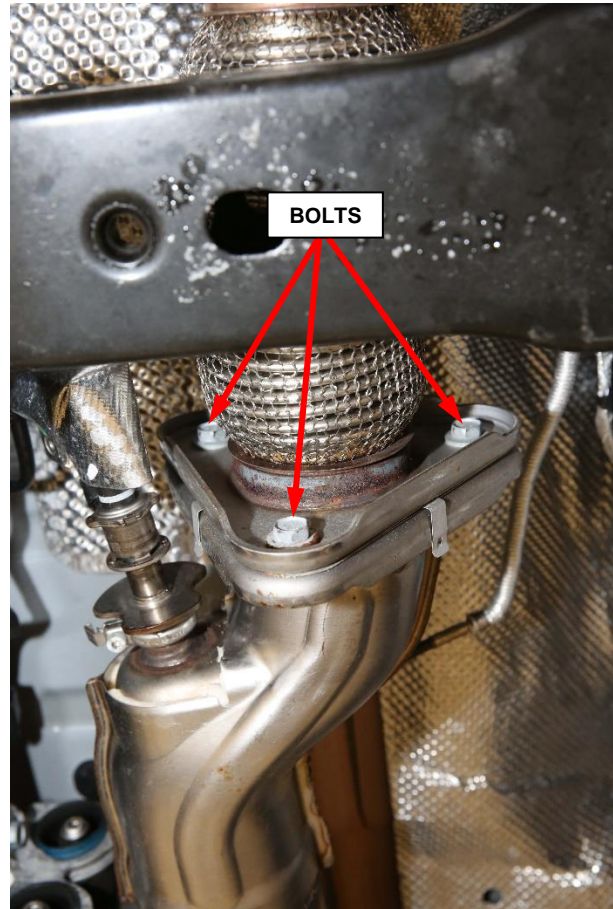

Figure 14 – DPF to SCR Flange
16. Remove and **DISCARD** the three bolts securing the Diesel Particulate Filter (DPF) to the Selective Catalytic Reduction (SCR) then separate the flange. The gasket will be replaced during reassembly (Figure 14).